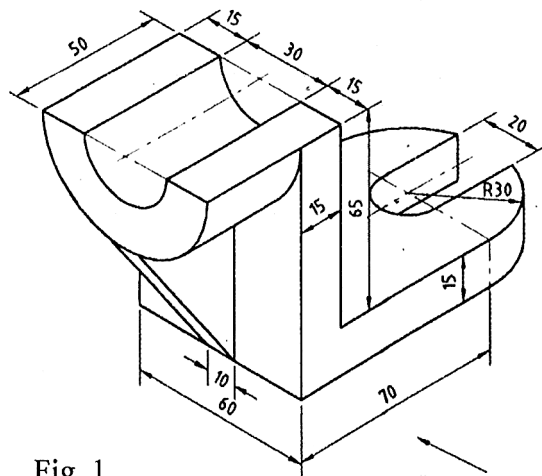

Fig. 1
2. Draw the three orthographic view (Third Angle Projection) of the object shown in Fig.1 taking front view from the arrow side with proper dimension, scale and angle of projection. (CO2) **15**